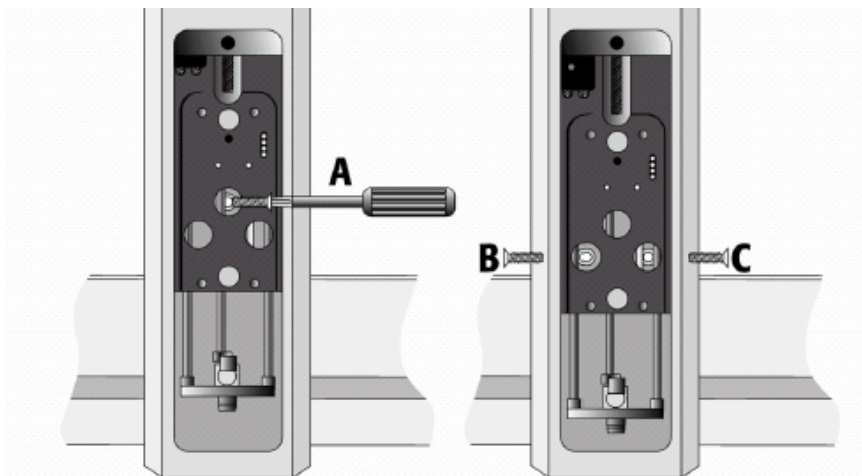
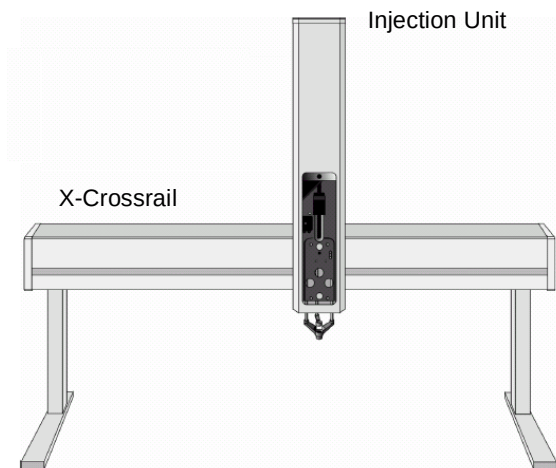

Figure 2-7 Attaching the Injection Unit with TORX Screws
Figure 2-8 2777 Sample Manager with the Injection Unit
6. Locate the three large holes in the black anodized frame attached to the Z-crossrail inside the injection unit (Figure 2-7, left). Slide the frame upward until the top hole is centered on the top threaded hole in the end of the Y-crossrail. You can use the small foam block (shipped with the unit) to keep the frame in place. Insert and securely tighten TORX screw A.
7. Install the two remaining TORX screws B and C in the left and right mounting holes, respectively (Figure 2-7, right). You can use the smallest TORX driver to hold the elastic cord to the left side, while inserting screw C into the right hole. Remove the small foam block. The assembly now looks like Figure 2-8.